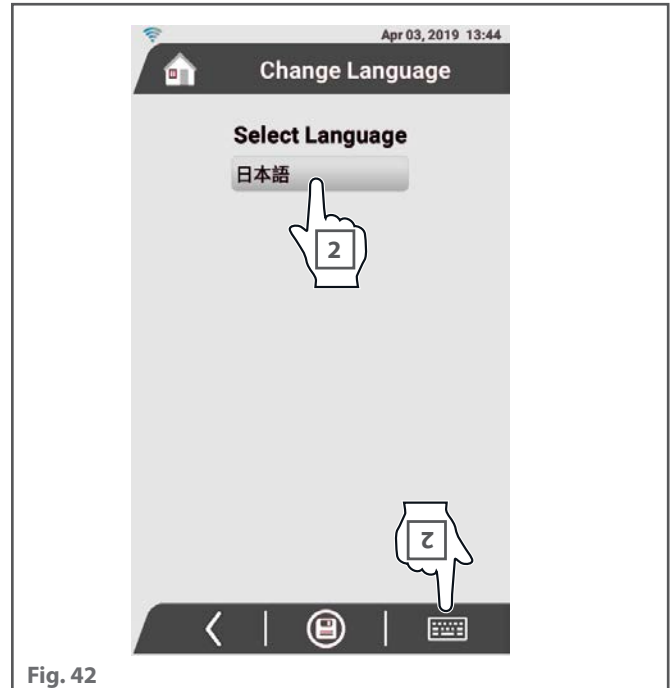

Fig. 42
- 1 ▶ **Fig. 42** tap the keyboard icon at the bottom right;